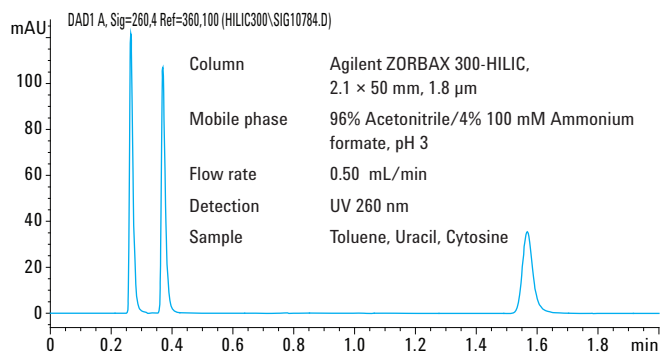

Figure 1. Agilent ZORBAX RRHD 300-HILIC QC chromatogram.
Figure 1 shows a typical quality control (QC) chromatogram for an RRHD 300-HILIC, 2.1 × 50 mm, 1.8 µm column. The Column Performance Report enclosed with the column shows the QC test with the performance of the column. The efficiency found on the QC Performance Report may be higher than the efficiency found in your laboratory. The QC test system may vary from the LC used in your lab, and has been modified from a standard system to minimize volume. This allows a better evaluation of the column and assures a more consistent product for the chromatographer.